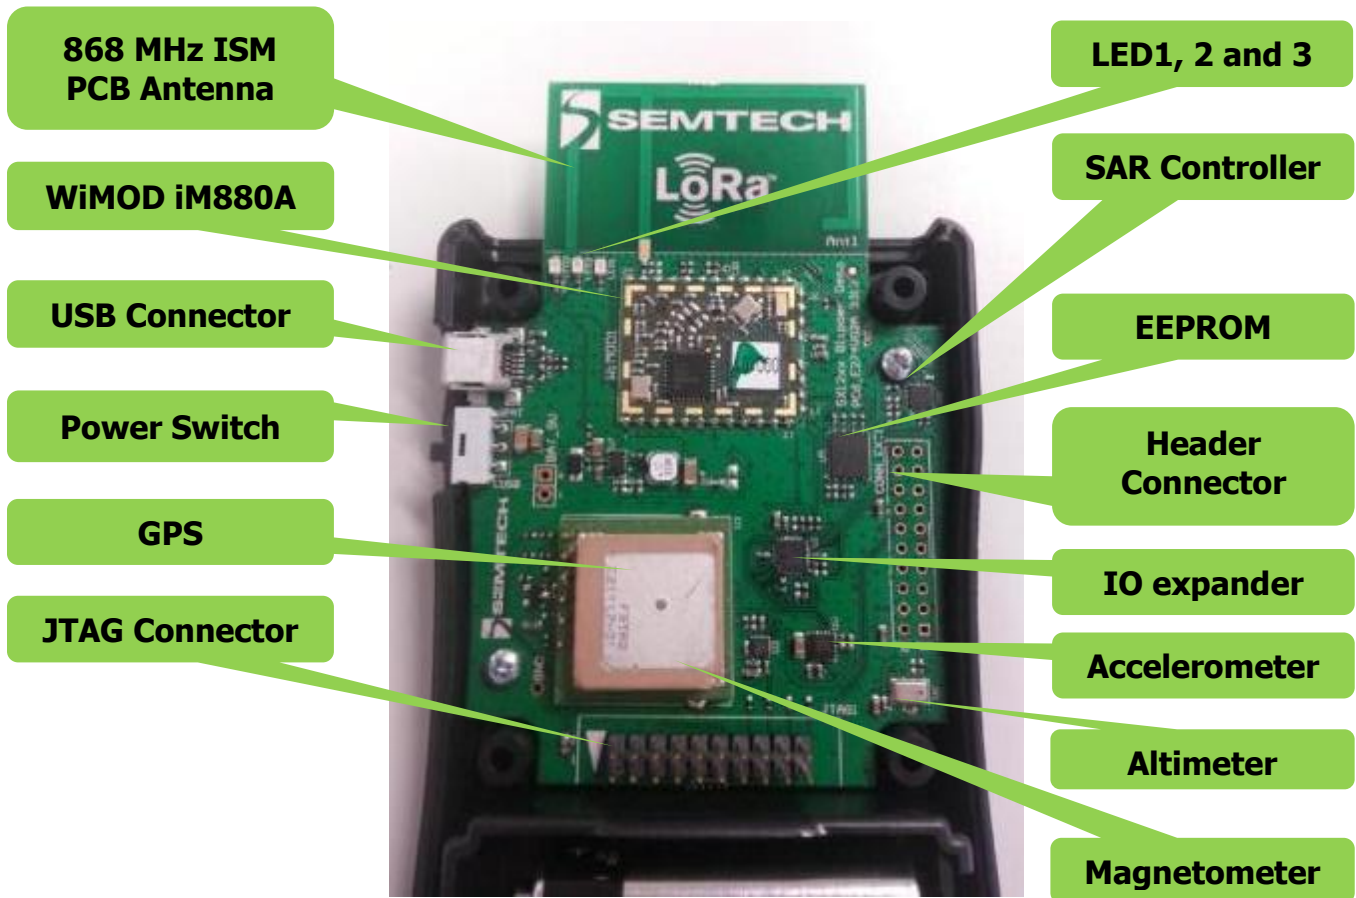

Figure 1: LoRaMote Hardware Description
- Connect the debugger though the standard 20-pin header (se figure 1 for the location)